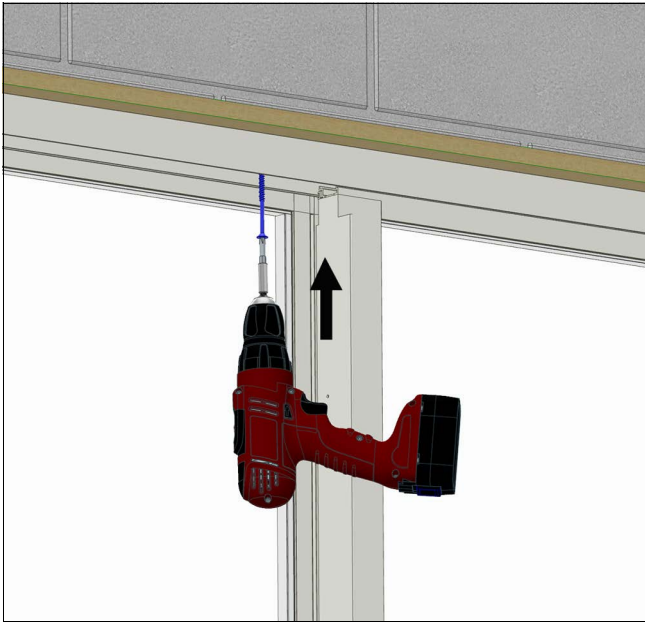

Figure 11
3. Install one fastener through the head jamb to affix the unit to the opening. Follow instructions in the section, "Typical Anchors on page 9". See Figure 11.